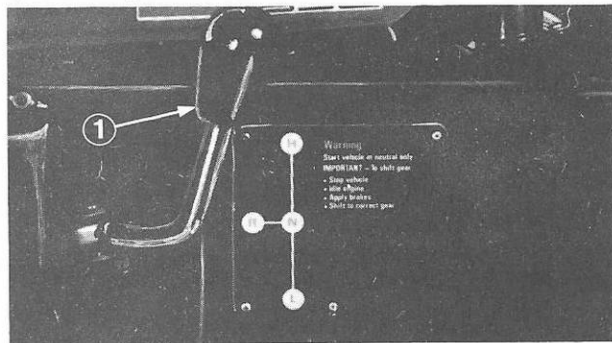

Fig. 12 ① Speed Range Selector
The range selector is found on the right side of the vehicle, behind the driver's leg (Figure 12). There are four positions on the selector.
2. Place the speed range selector in N "Neutral" (Figure 12).